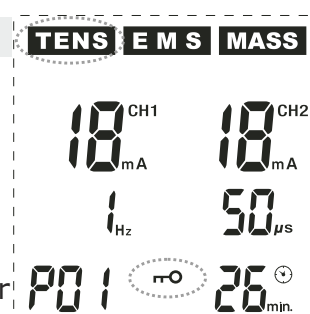

Fig. 15
If none of the keys is pressed in the operating mode, the device switches off the blue display lighting after approx. 20 seconds and activates the keylock that is shown on the display by means of the flashing symbol **⏏** (see **Fig. 15**). This keylock prevents the set output intensity from being increased further. Thus, it can be avoided that the intensity is increased unintentionally by pressing the key in an uncontrolled manner or other undesired changes occur whilst the device is operated. In order to deactivate the keylock, press one of the two keys ⑦ (**CH1**⊖) for channel **CH1** and/or ⑨ (**CH2**⊖) for channel **CH2**.